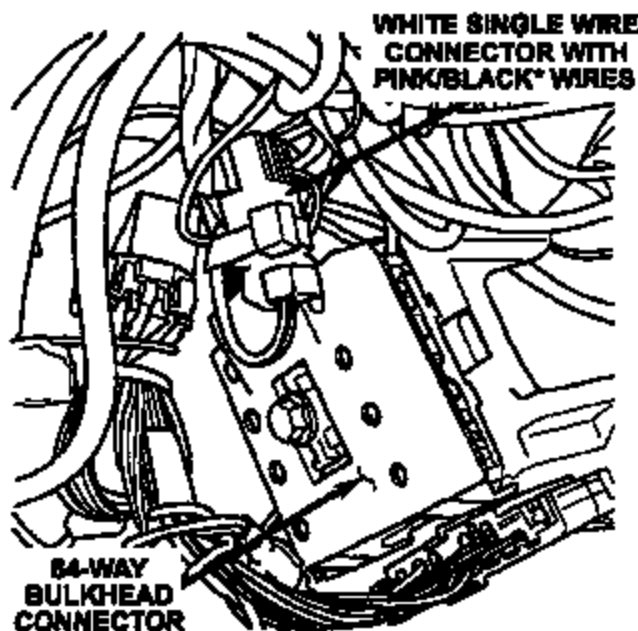

Figure 2
2. If a blower motor relay is NOT found, inspect the area near the 84-way bulkhead connector for a WHITE single wire connector with BLACK ends that connects two PINK with BLACK tracer wires (Figure 2). If the connector and wires are present, follow the wiring harness to locate the blower motor relay that is secured under the instrument panel.